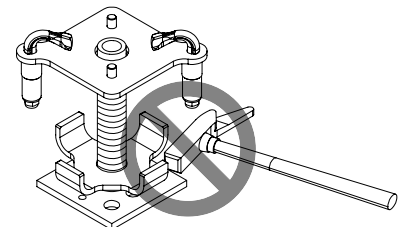

Fig. A2.14a
- Never loosen the rotary wings with force e.g. hammer blow. Risk of breakage! (Fig. A2.14a)